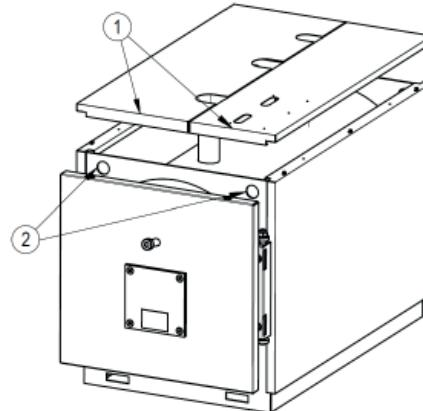

fig. 5
5.2.1 For models PREXTERM RSW 92N÷600N (Fig. 5)